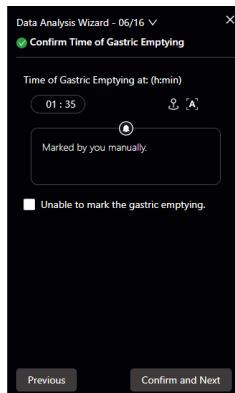

Figure 4-30 Data Analysis – Confirm Time of Gastric Emptying
7) Confirm Time of Gastric Emptying (Figure 4-30). Check if the time of gastric emptying is correct. If incorrect, you can directly input the necessary time in the time edit box, or click [Mark on the graph]  to mark the time on the chart. To restore the time automatically marked by MotiliScan, click [Auto Compute] . If the time cannot be marked, check [Unable to mark the gastric emptying]. After confirmation, click [Confirm and Next] to proceed.